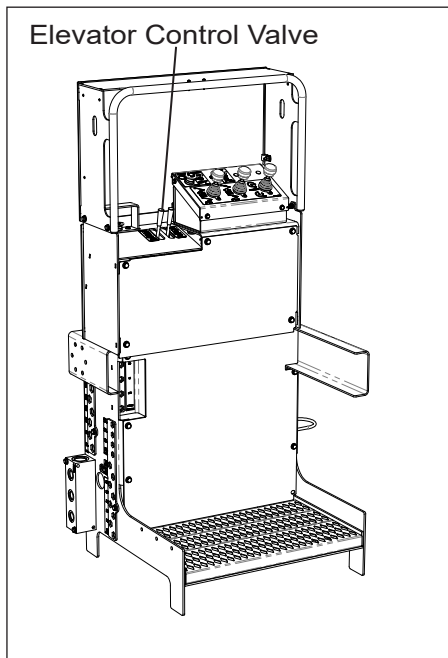

Figure 1 – Lower Control Station
2. Find the two-spool elevator control valve located on the left side of the lower control station on the curb side of the vehicle (refer to Figure 1).